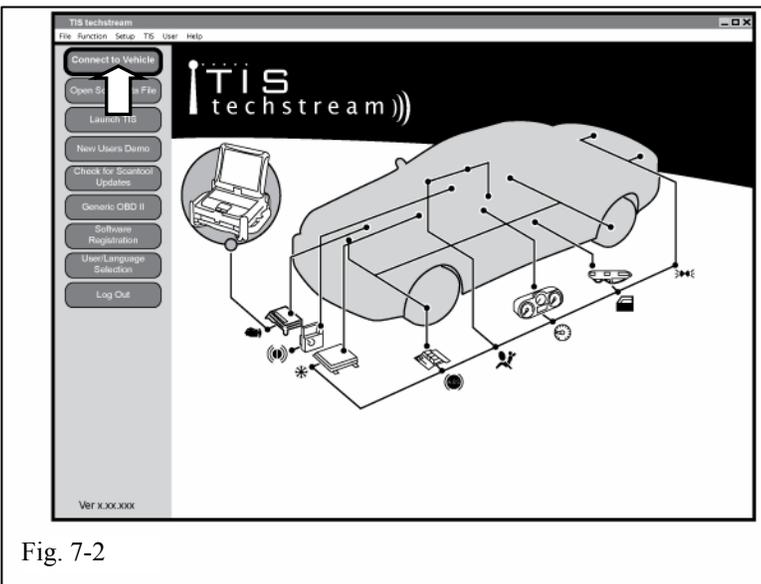

Fig. 7-2
- (e) Click “Connect to Vehicle” (Fig. 7-2)